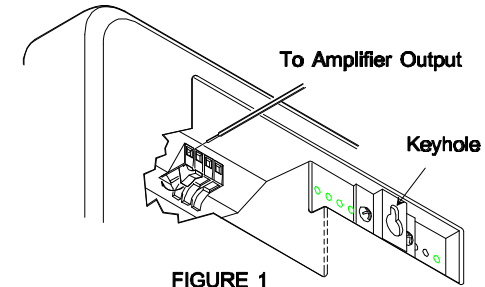
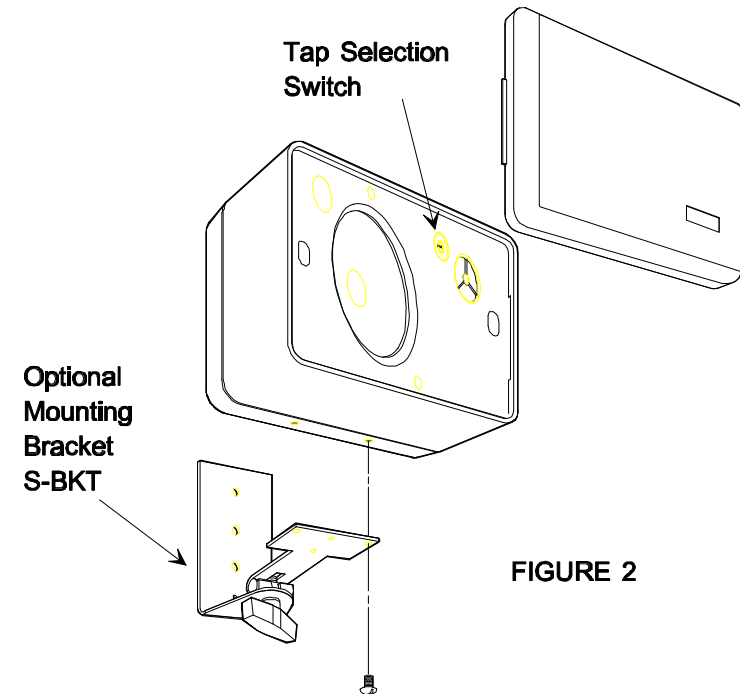

FIGURE 1
FIGURE 2
Insert one wire of input to (+) and the other to (-). Secure wire by pushing lever which clamps wire (Fig. 1). Each terminal will accept 18 to 24 gauge speaker wire. Adjust volume by selecting appropriate tap setting (See Fig. 2 for location).
1. The baffle can be hung from a nail or hook by the "keyhole" that is attached to the back of the housing (Figure 1).
2. The unit can be mounted to an optional mounting bracket, (S-BKT). This bracket can then be secured to a surface. The bracket is attached to the speaker brass inserts with screws provided. (Figure 2).